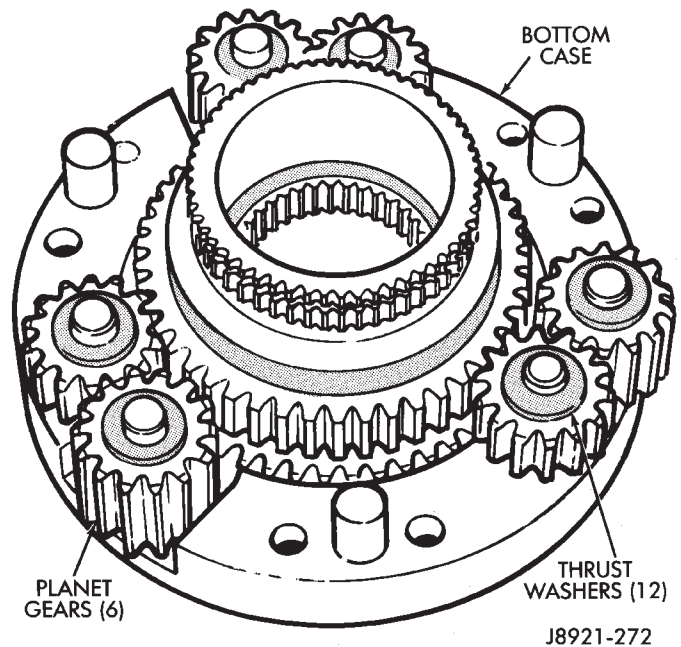

Fig. 34 Planet Gears And Thrust Washer Removal
(49) Remove thrust washers and planet gears from case pins (Fig. 34).